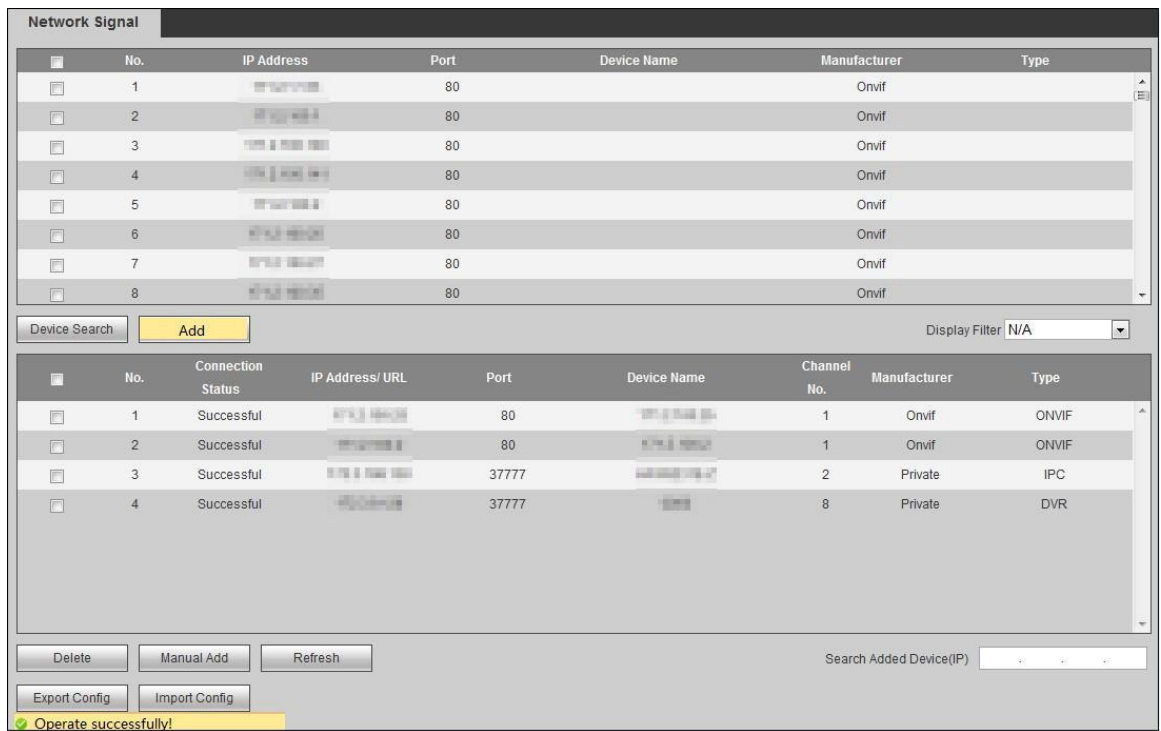

Figure 3-12
- 2) Select the network signal to be added, and click "Add". The network signal will be displayed in the list, and the system will show "Operate successfully", as shown in Figure 3-12.